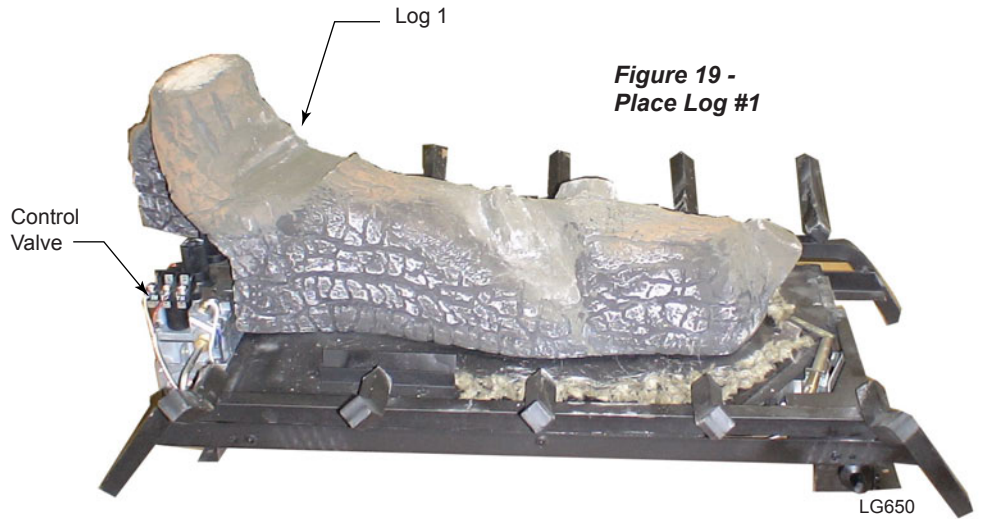

Figure 19 - Place Log #1
1. Place log #1 on burner by aligning two (2) holes on bottom of log with two (2) pins on burner. The tallest part of the log is on the valve side of burner. Gently push log down until it comes in contact with burner surface. *Figure 19*